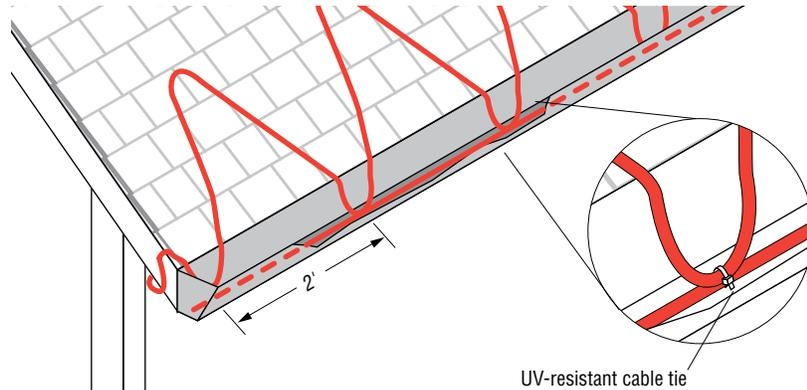

Figure 1.3 Layout in a serpentine pattern.
For sloped roofs, ice dams may form at the roof edge. To maintain a continuous path for melt water runoff, route the heating cable in a serpentine pattern as shown in Figure 1.3 below and follow the appropriate attachment recommendations in Step 2. Additional heating cable may be needed for other gutters, downspouts, and valleys.
**Note:** Attachment methods are purposely not shown in Figure 1.3. For attachment methods, proceed to Step 2 (page 10).